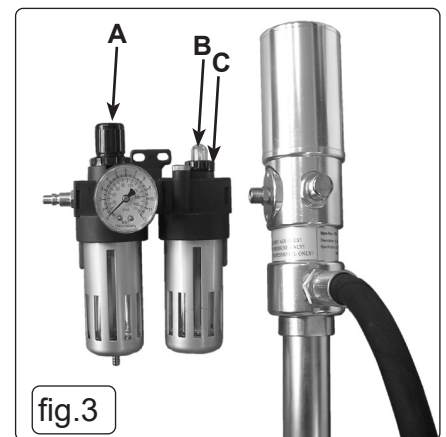

fig.3
4.2. PUMP AND AIR REGULATOR/LUBRICATOR ASSEMBLY (FIG.3)
- 4.2.1. Apply a small amount of liquid thread sealant onto the threads of the air inlet of the pump and attach the air regulator/lubricator (fig.3).